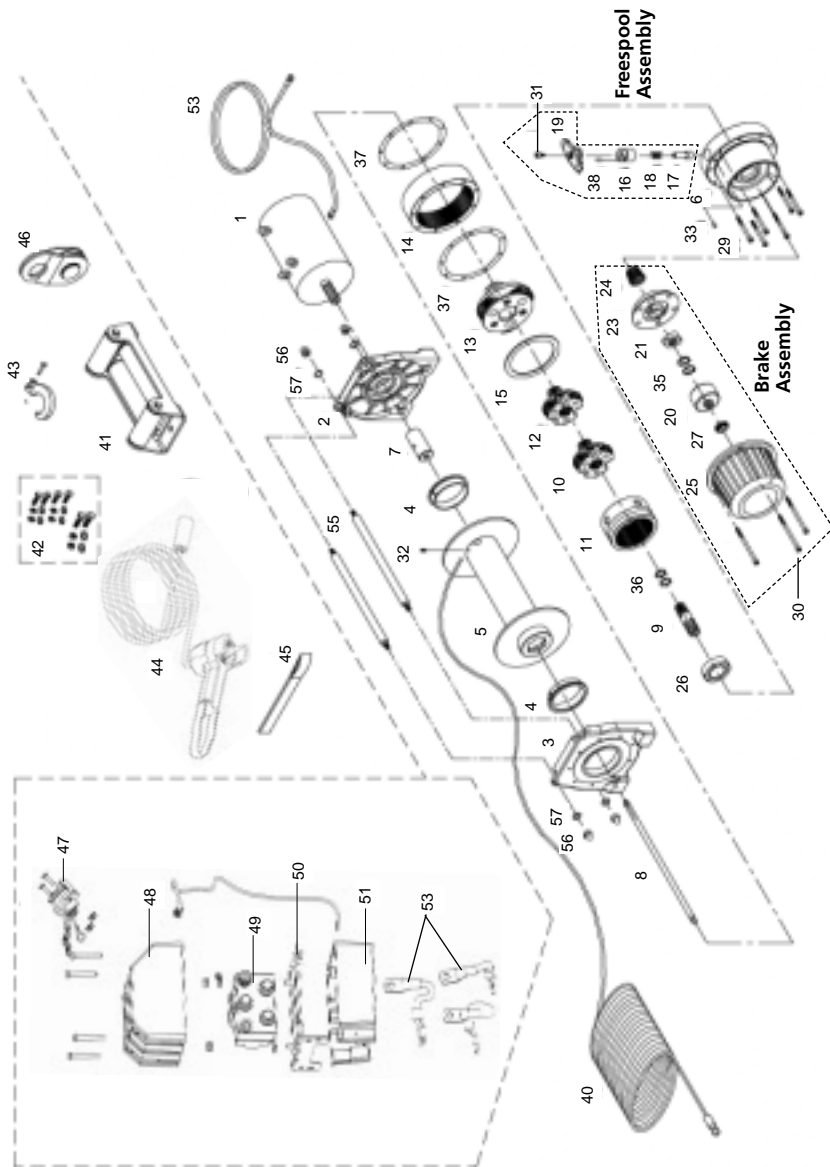

Figure 13
- 1) Loosen the 3 retaining bolts and remove the brake cover. (Ref.#25 Figs. 13, 14)
- 2) Remove the two retaining C-rings. (Ref.#35 Figs. 13, 14)
- 3) Insert washers to maintain a spacing of .090" +/- .010" between the C-ring grooves and the brake actuating cam. (Ref.#21 Figs. 13, 14)